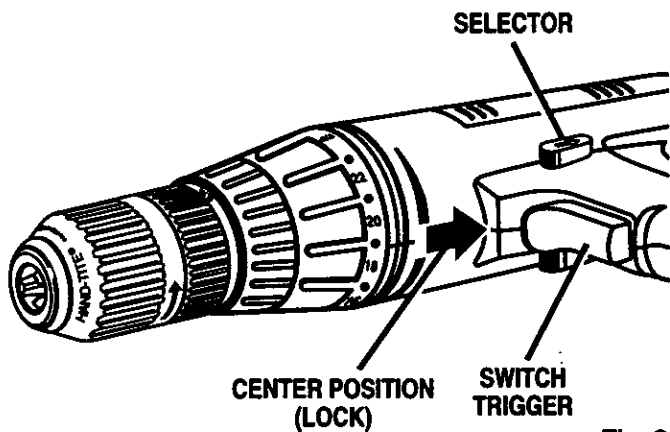

Fig. 3
See Figure 3.
- Lock switch trigger on your drill by placing the direction of rotation selector in center position. See Figure 3.